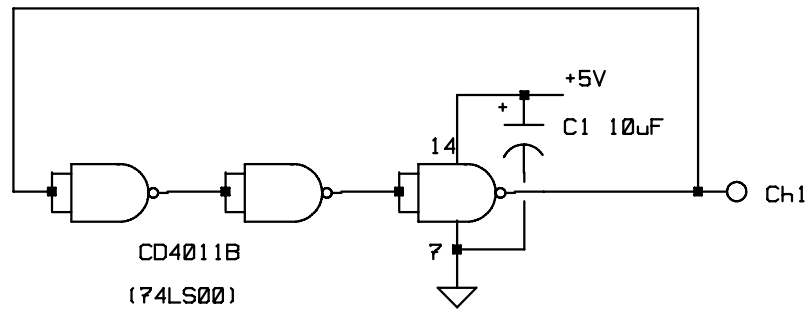

Fig. 4 Ring oscillator for measuring average propagation delay.
5. Fig. 4 gives a quick way to estimate the average propagation delay for an odd number of gates (3 in this case). Connect Fig. 4 using the CMOS gate ('4011) and a 5-V supply. It should self oscillate with a quasi-pulse waveform: measure the period of the oscillation. Record the period for supply voltages of 5 V, 10 V, and 15 V. Record a sample waveform for any one of these cases.
6. Connect Fig. 4 using the TTL gate ('74LS00) and a 5-V supply. Record the period of the self oscillation.